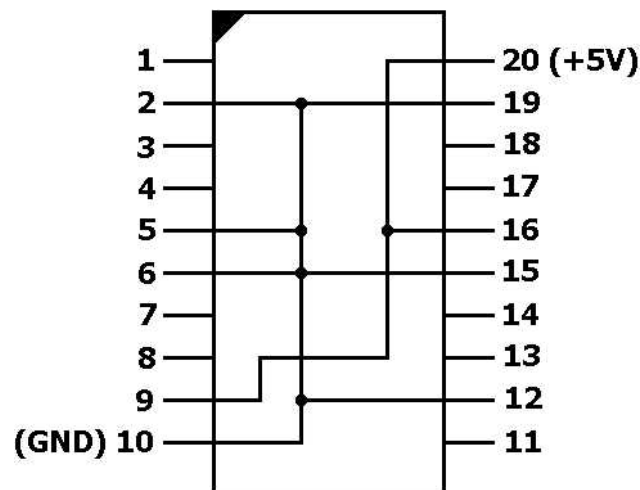

Fig. E-2: Header U28
3. Construct Header U28 by connecting pins 2, 5, 6, 12, 15 and 19 to ground pin 10. Connect pins 9 and 16 to +5 V at pin 20. See Figure E-2 below.